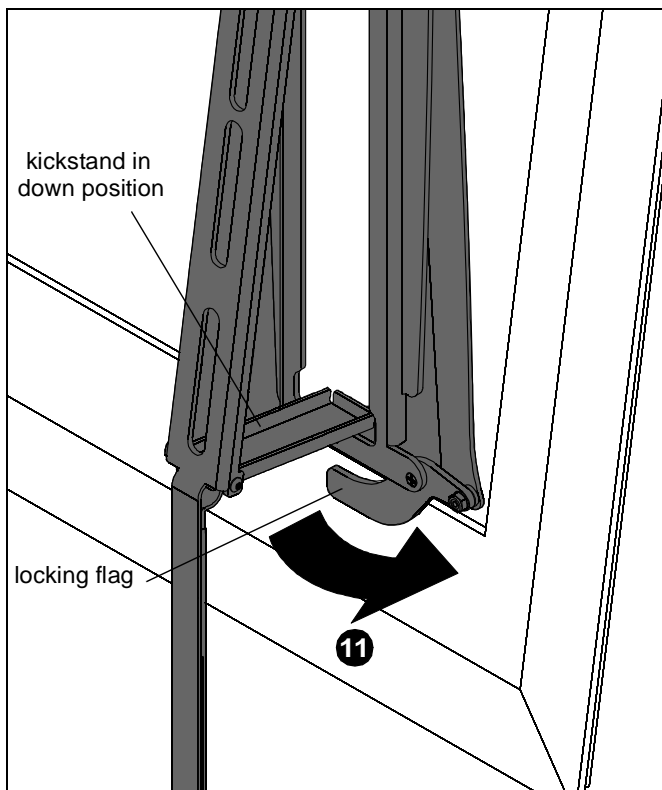

Figure 6
9. Slowly pull bottom of display away from wall until kickstand fully reaches its down position. (See Figure 6)
11. Rotate flags on each interface bracket to the closed position in order to lock brackets to wall plate. (See Figure 6)